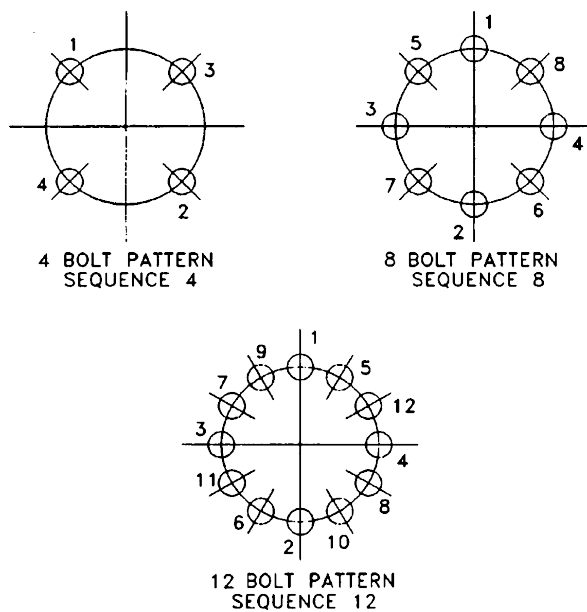

Figure 9 Bolt Tightening Sequence
- Tighten the body stud nuts to the proper torque listed in Table 2 using the tightening sequence in Figure 9.